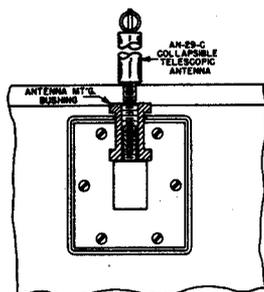

Fig. 1.—Rear view, showing Antenna AN-29-C in position.
1. When operating the radio receiver and transmitter as a portable unit, collapsible Antenna AN-29-C may be quickly screwed to the antenna terminal located on the rear of receiver transmitter case. See fig. 1.